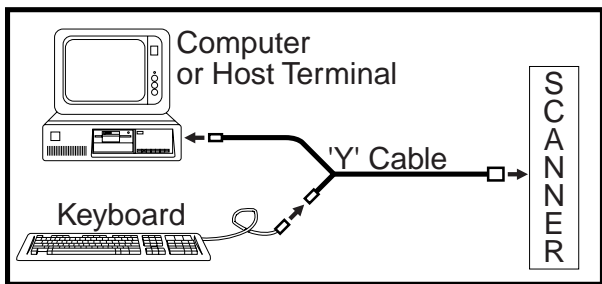

Figure 1. Connecting the 'Y' Cable
2. Unplug the keyboard cable from the computer/host terminal, and plug it into the female connector of the 'Y' cable. (See Figure 1.)